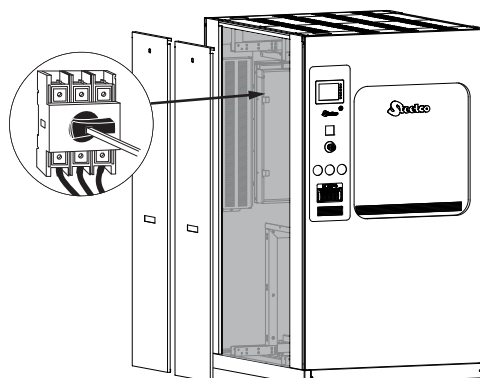

Figure 6 – Electrical connection
- ▶ Connect the power supply cable (Figure 6).